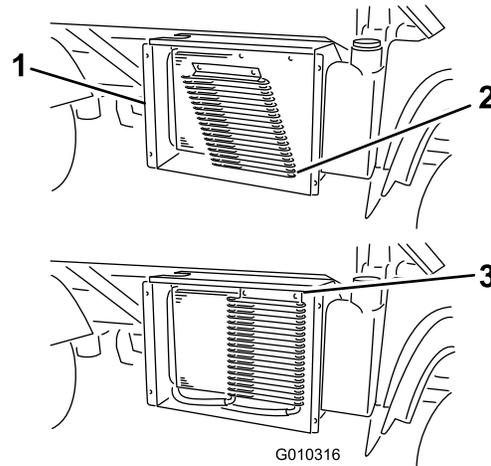

Figure 32
4. If so equipped, rotate the latches and pivot the oil cooler away from the radiator (Figure 32).